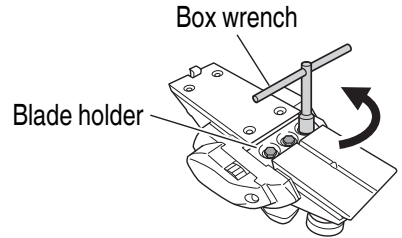

Fig. 10
- (1) As shown in Fig. 10, loosen the blade holder with the attached box wrench.